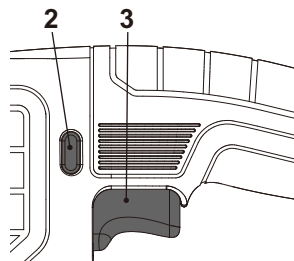

Fig. 9
1. Switch the product on by pressing the on/off switch (3) (Fig. 9).
2. Switch the product off by releasing the on/off switch (3) (Fig. 9).